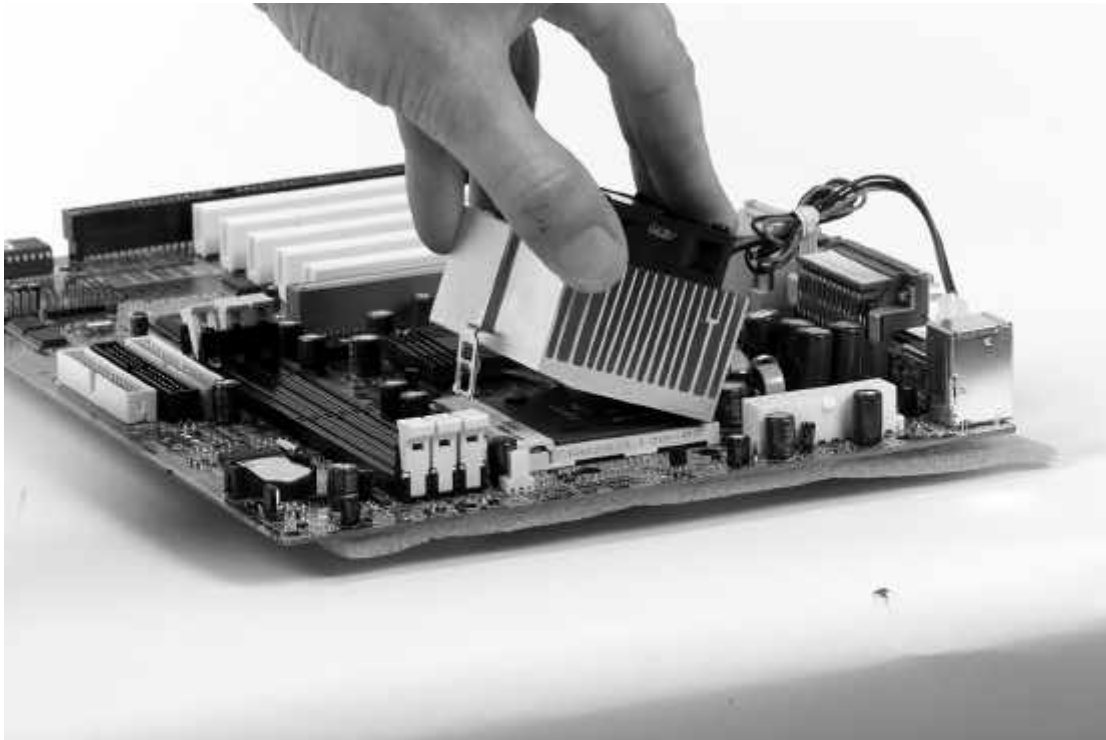

Figure 10. The WRONG WAY to Install a Socket A AMD Processor Heatsink
10. Figure 10 shows the **WRONG** way to install the heatsink. Do not tilt and push the heatsink onto the processor because doing so increases the chances of cracking the processor die. Instead, install the heatsink carefully with the bottom of the heatsink nearly parallel to the top surface of the processor. When properly installed, the heatsink will rest on the four rubber pads. The heatsink will come in contact with the processor die only when the retaining clip is fully installed.